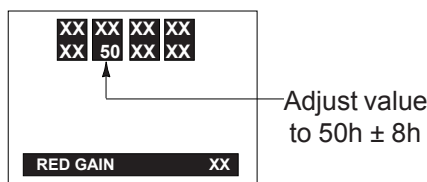

Figure 14
- 1.6 Adjust SCREEN VR so that the OSD value (indicated on Figure 14) reaches $50h \pm 8h$.